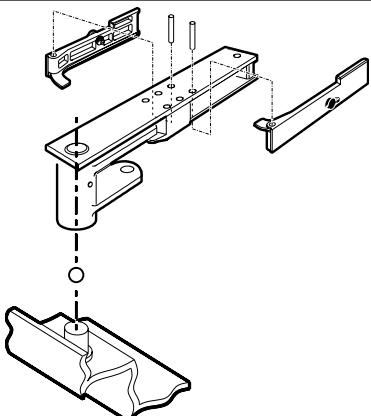

Fig. 8
- Assemble the release levers on the support bracket, and fit the latter on the pivot in the foundation box, also inserting the ball supplied (fig. 8).